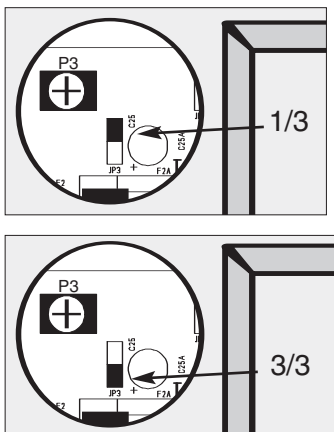

Fig. 14
- JP3 : the spade connector (Fig.14) allows the gas rate to be reduced to 1/3 performance by positioning the spade across the pins as shown (Fig.14). Full performance across pins as shown (Fig.14).